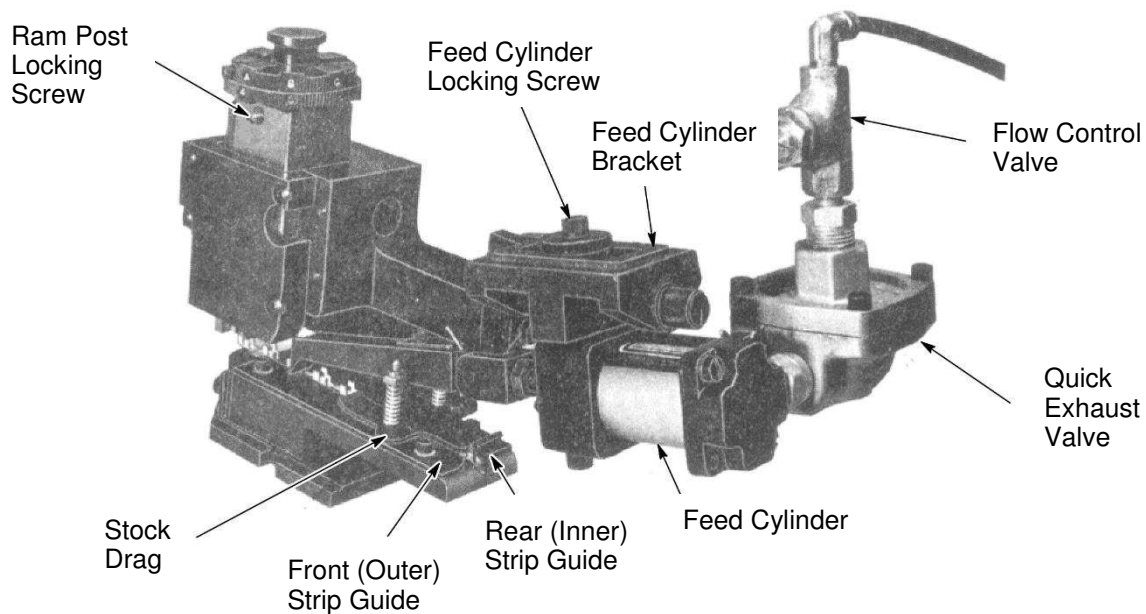
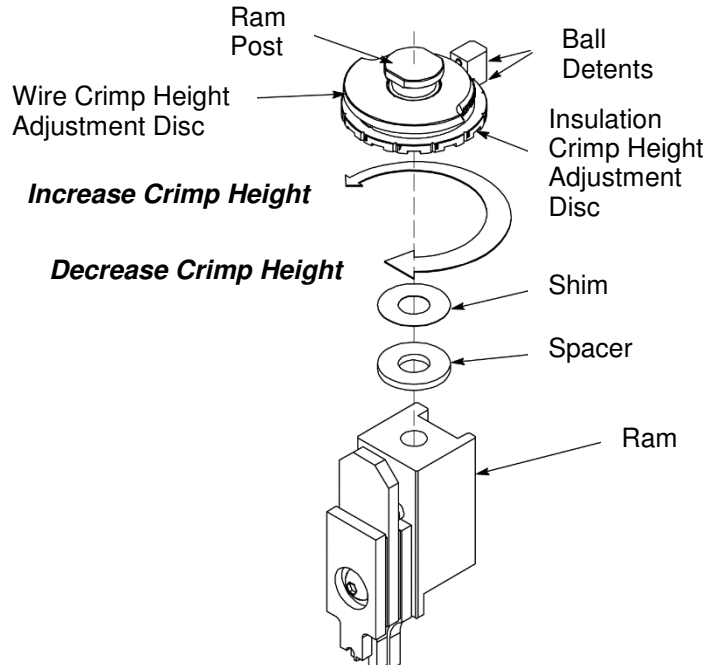

Figure 5
Figure 7
- (1) Slightly loosen the feed cylinder locking screw on top of feed cylinder bracket (see Figure 5).
- (2) Turn on-off valve to the "off" position (AMP-O-ELECTRIC machine), or disconnect air supply to feed cylinder (automatic equipment). Feed finger should retract.
- (3) Turn feed adjustment screw CLOCKWISE to RETRACT forward limit or COUNTERCLOCKWISE to EXTEND forward limit of stroke.
- (4) Retighten feed cylinder locking screw, turn on-off valve to "on" position (AMP-O-ELECTRIC machine) or reconnect air supply to feed cylinder (automatic equipment).
Fine Adjust Assembly PN 879103-[ ] is factory installed and should require no further adjustment. If the assembly must be removed from the ram, be sure to loosen ram post locking set screw (reference Figure 5). The ram post can then be removed. Upon re-assembly, be sure that the two ball detents on the fine adjust assembly are aligned with the centerline of the insulation crimper and oriented relative to the front of the tooling (as shown in Figure 7). Ensure that the correct spacer (as per the appropriate applicator log) is re-assembled. Be sure that the ram post and ram post locking set screw are tight before re-installing the applicator into the appropriate terminating unit.